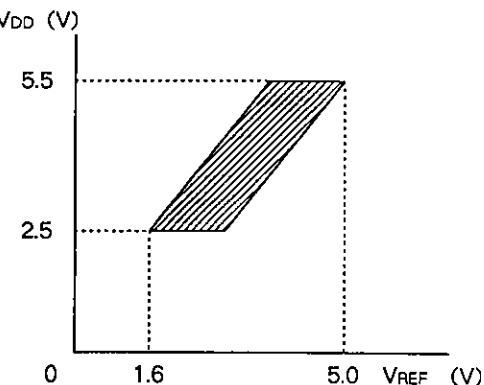

Fig. 5 Power supply voltage detection reset function chart
The graph in Fig. 5 shows the relationship between the power supply voltage  $V_{DD}$  and reference voltage  $V_{REF}$  of the power supply voltage detection reset function.
**Note 1)** The graph in Fig. 5 serves as guide to the function operation area obtained using average devices.